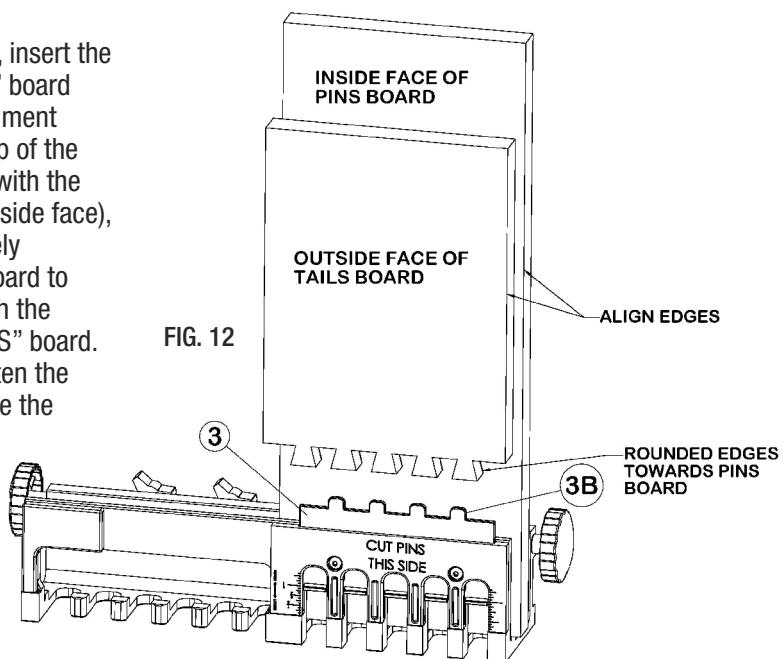

FIG. 12
9. To align the edges, insert the tails of the "TAILS" board into the Edge Alignment Teeth ③B on the top of the Adjuster plate ③ with the rounded side in (inside face), and slide the loosely clamped "PINS" board to align its edges with the edges of the "TAILS" board. Now securely tighten the clamps and remove the "TAILS" board (FIG. 12).